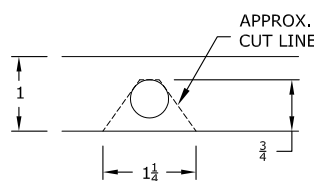

FIGURE A3
6. Mark the 4" hole location. Using a tape measure hooked over the rear edge of the bed (at tailgate end), measure the location for the hole as shown in figure A3. Next, locate the center of the bed by measuring the distance between the wheel wells and dividing by two. The center of the hole will be at the intersection of the center of the bed and the first distance measured
8. Modify bed flange. Cut a notch in the bed flange just above the frame in the passenger side rear wheel. Locate the 7/16" hole in this flange above the axle and enlarge the hole by removing the metal below the hole so that a notch is created, See figure A3 & A4. This will allow the rear cross member to be installed.